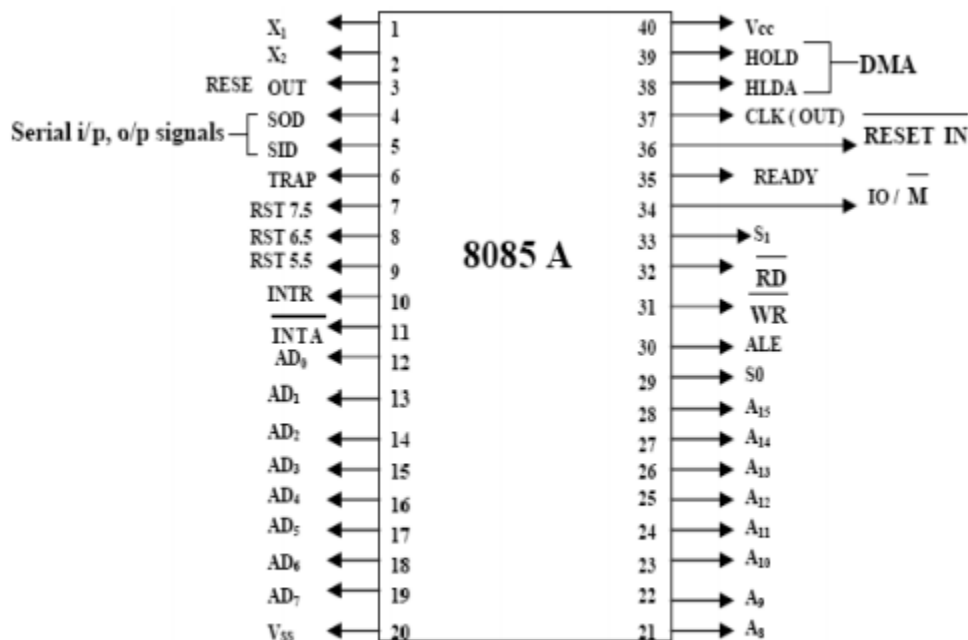

Fig. 6 8085 microprocessor pin layout and signal groups
6. +5 V single power supply The logic pin layout and signal groups of the 8085 microprocessor are shown in Fig. 6. All the signals are classified into six groups: